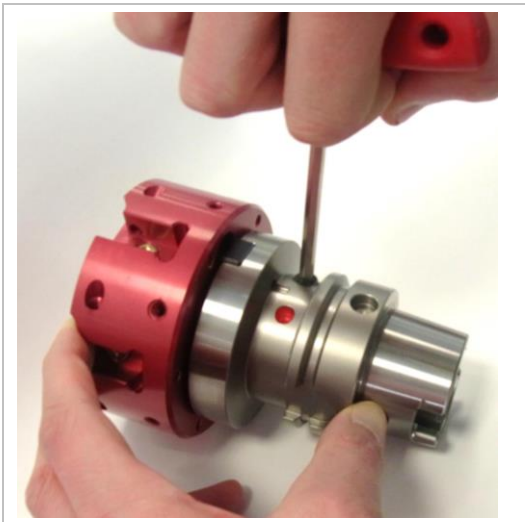

Figure 4: Centering tool
3. Turn the centering screw with the aid of a suitable hex-wrench with T-key to the stop (see "Figure 4: Centering tool").